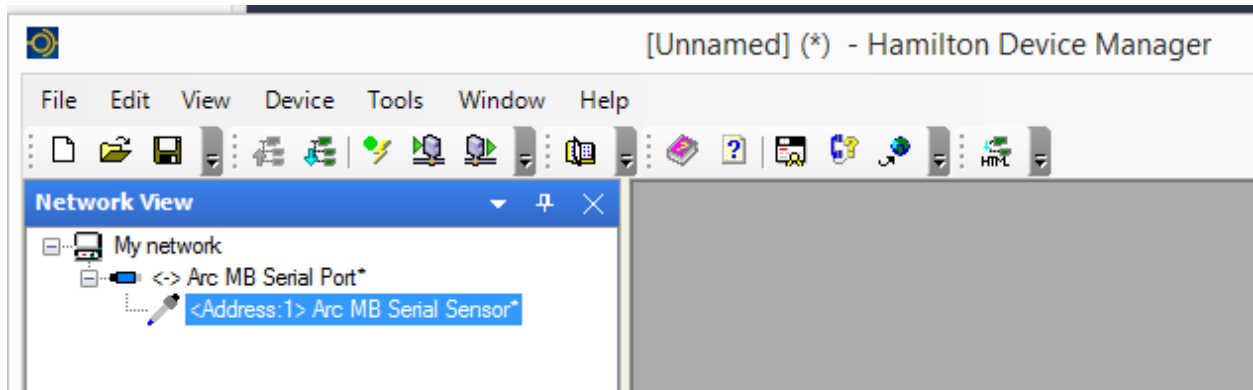

Figure 9- After clicking OK in the Add window the HDM adds the LDO sensor.
10. The Hamilton Device Manager window reappears and the sensor now appears in the Network View window under the ARC Serial Port listing, as shown in Figure 9. Note that the text for both the converter and the sensor are both in plain (not bold) text to indicate that they are offline.